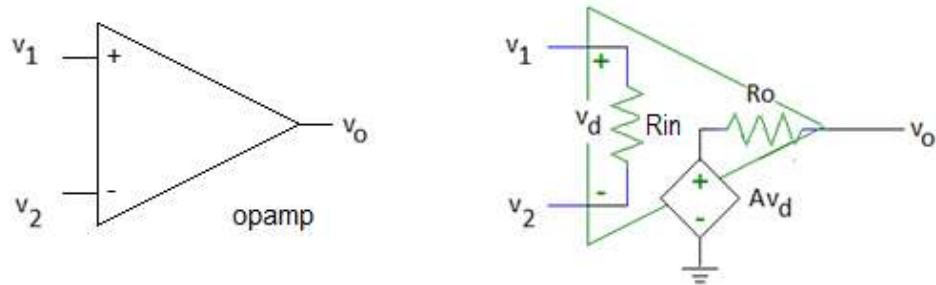

Figure 1: Symbol for a simple ideal op amp and its equivalent circuit.
**Background** In introductory analyses of operational amplifier (op amp) circuits, a simple model of an op amp is used as its equivalent circuit (Fig. 1). The output voltage of the op amp,  $v_o$ , is proportional to the difference in the voltage between the positive and negative input terminals.  $v_o = A(v_1 - v_2)$  where  $v_1 - v_2 = v_d$  the voltage drop across the input resistance,  $R_{in}$ , between the two input terminals.  $R_{in}$  has a very high resistance, generally in the range of 1-100 M $\Omega$  so little current flows across  $R_{in}$  when the magnitude of  $v_d$  is small.
3. Determine the value for a resistor,  $R$ , for the voltage divider show in Figure 1 such that the voltage at Node A will equal to 5V when the resistance of the CdS photocell is equal to the value calculated in Step 2.
on the datasheet will not be connected to ground and is V- in schematic shown in Figure 1.